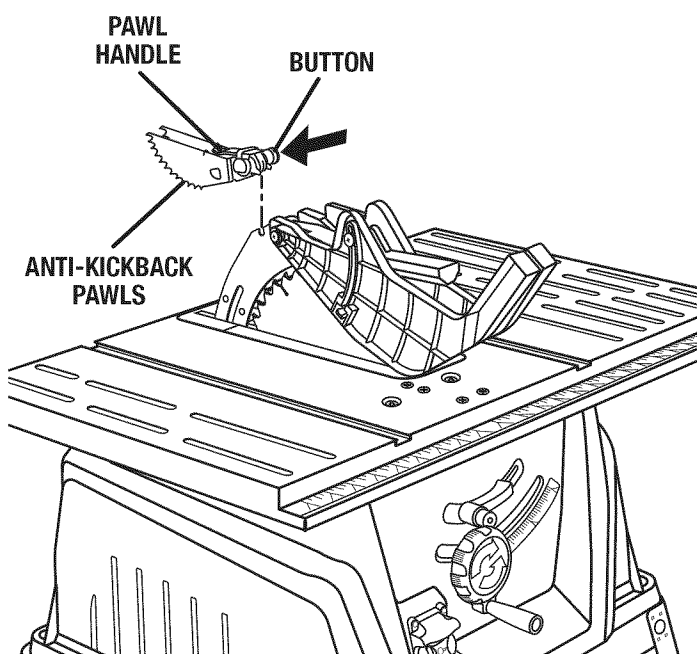

Fig. 15
- With the front of the blade guard raised, lower the back of the guard into the middle hole of the spreader/riving knife. Push the front of the guard down until it is **parallel to the table** (see figure 15). If the blade guard is not parallel to the table, the riving knife is not in the spreader (or "up") position.